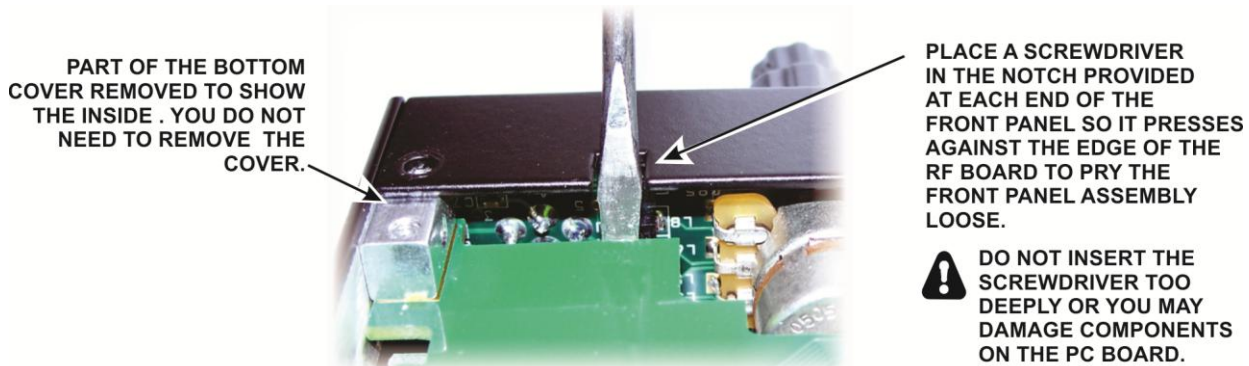

Figure 7. Disengaging the Front Panel Assembly.
3. Blade screwdriver (see Figure 7).
- Be sure all five screws have been removed, and then pry the front panel loose as shown in Figure 7. There are four multi-pin connectors between the front panel assembly and the main chassis. Work carefully, loosening one end a bit and then the other.